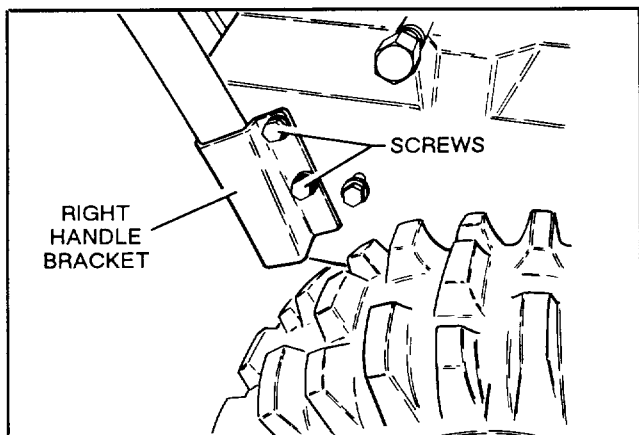

Figure 4
5. Remove and discard two flange head screws securing front of right handle bracket to engine frame (Fig. 4).